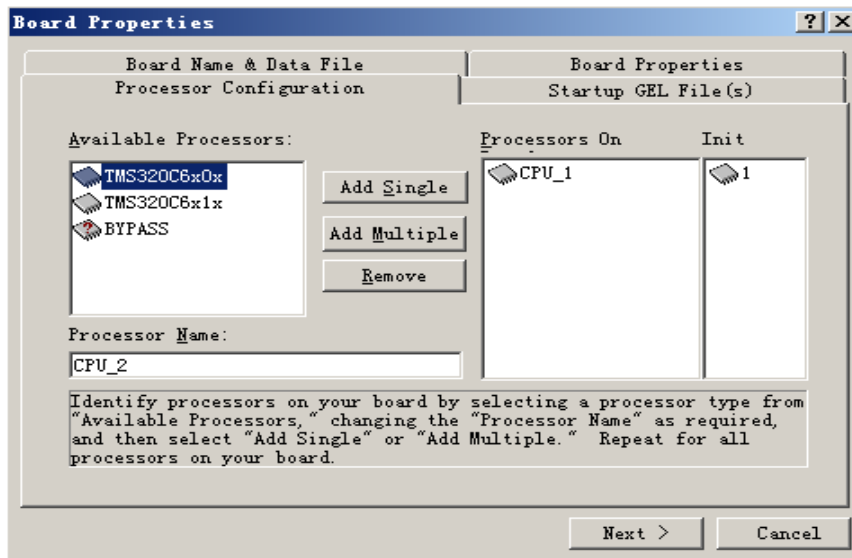

Figure C-5
- Click on “Next” to get to the Process Configuration page (see Figure C-5). According to the type of the target board and the number of each type of the target boards you have, choose the appropriate processor and click on “Add Single” or “Add Multiple” (see Figure C-5) .